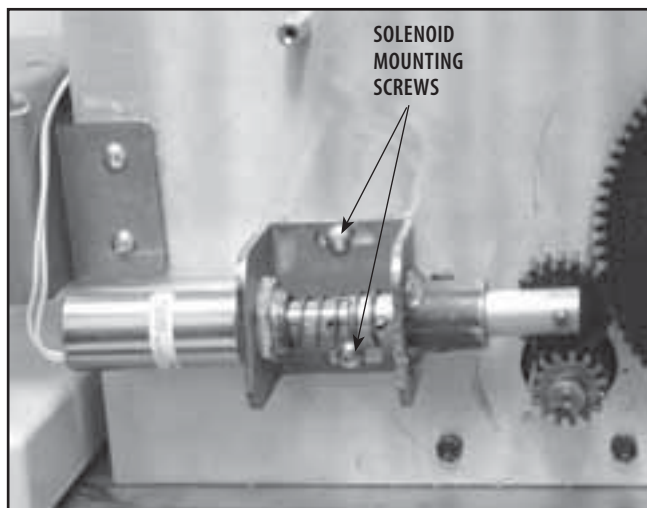

FIGURE 6.48
4. Using the 9/64 in Allen Wrench, remove the two Solenoid Assembly Mounting Screws. See Figure 6.48.